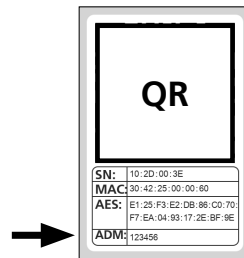

Fig. 3
- 3 A prompt will appear asking you to scan the cylinder QR code provided using your smartphone camera (Fig. 3). The QR code is on the sticker enclosed in the packaging (Fig. 4).
**! Attention:** The set comes with two QR code stickers, one for the cylinder and one for the keypad. You can identify the QR code required here for the cylinder by the administrator code at the bottom of the sticker, marked "ADM" (Fig. 3).